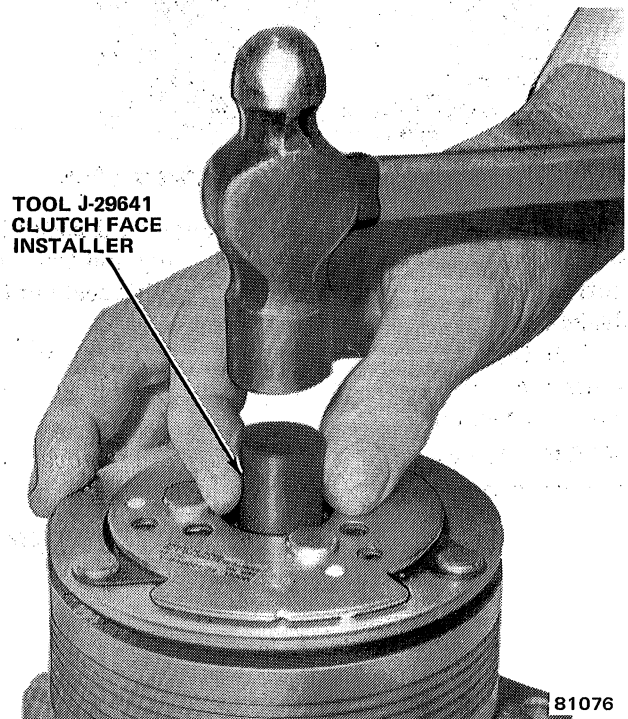

Fig. 3E-26 Front Plate Installation
(17) Install clutch spacer shims.
(18) Tap new felt ring into place and install compressor shaft key.
(19) Align front plate keyway to compressor shaft key.
(20) Using Clutch Face Installer J-29641 (fig. 3E-26), tap front plate to shaft until it has bottomed on clutch shims.